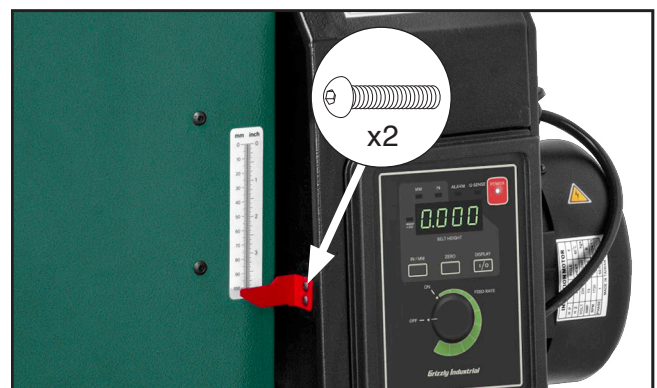

Figure 40. Location of scale pointer and fasteners.
2. Loosen screws that secure scale pointer (see **Figure 40**), adjust it to zero, then tighten screws.